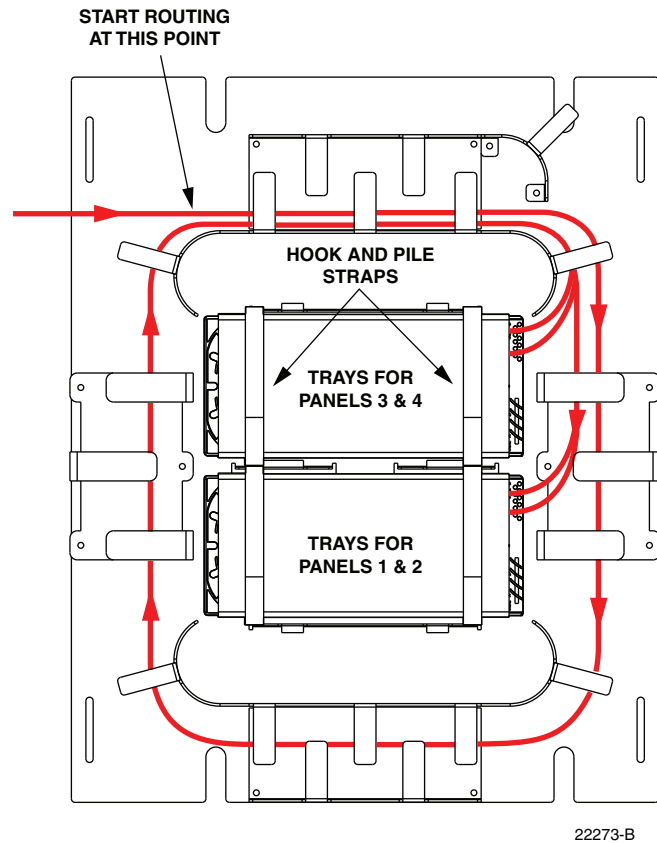

Figure 36. Distribution Splice Tray Replacement
12. To replace the splice tray, route the attached tubes around the distribution splice tray assembly as shown in Figure 36. Avoid twisting or kinking the fiber tubes. Maintain a 1.5-inch (3.81 cm) minimum bend radius for all non reduced bend radius fiber.
12. To replace the splice tray, route the attached distribution cable fibers and distribution panel fibers (see Figure 36) around the splice tray assembly radius limiters. Avoid twisting or kinking the fiber tubes. Maintain a 1.5-inch (3.81 cm) minimum bend radius for all non reduced bend radius fiber.